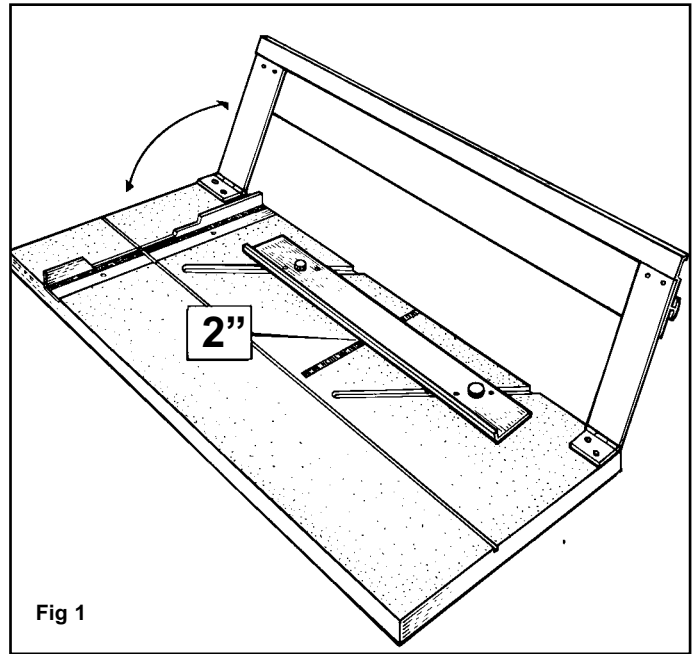

Fig 1
1. Set the Mat Guide to the desired border width. For example, for a 2" border align the *front* of the Mat Guide at the 2" mark and tighten the Black Knobs. **Fig 1**